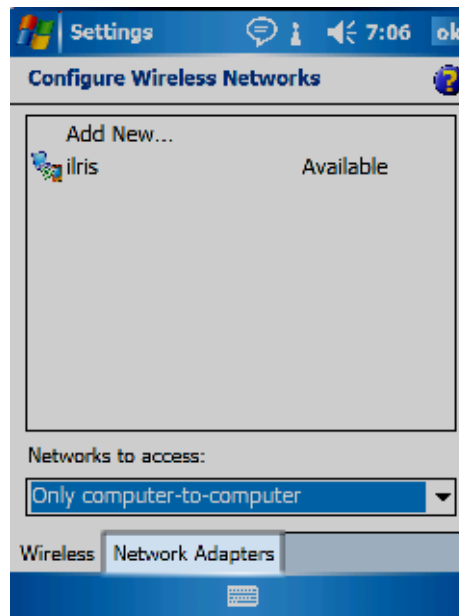

Figure 33: Network Adapters tab
- From the Configure Wireless Networks window, tap the **Network Adapters** tab (Figure 33). The Configure Network Adapters window appears.